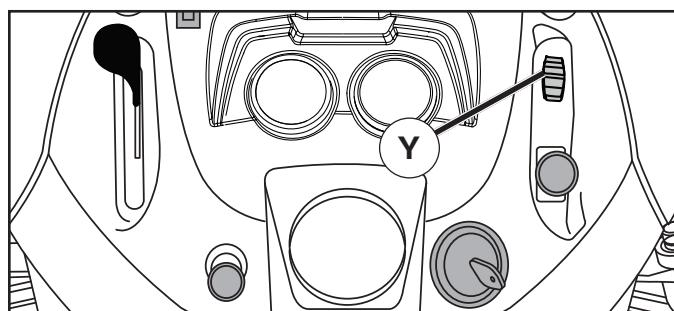

Fig. 15
## TO USE DIFFERENTIAL LOCK CONTROL (Y) (See Fig. 15)